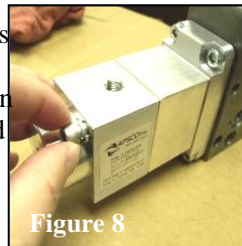

Figure 8
5. Install Cap Screws for Cylinder Housing as shown in Figure 8. Hand tighten only at this time.